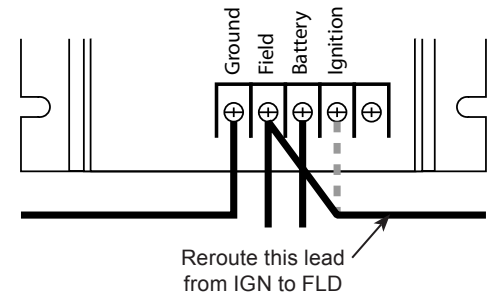

Figure 5: Reuse Existing FLD wire for IGN by Jumping Terminals
- 50-VR regulator without Deutsch connector (see Figure 5): Disconnect IGN lead at regulator IGN terminal and re-connect to FLD terminal on regulator. Torque screw to 1.4–1.7 Nm/12–15 lb. in.